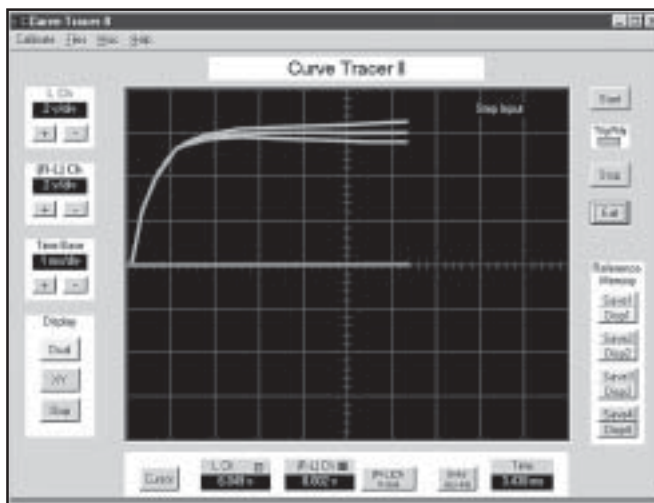

Figure 6 — The main window of the curve tracer program showing step voltage input.
remove the DUT. Next, set the jumper J1 on the circuit so that the step voltage is applied to Rm. Run the program. Click Start and wait for the TrigRdy LED to change from green to red. Now create the step voltage by closing switch S1 on the circuit. Upon capture of the step voltage data, the TrigRdy LED will revert to green. With S1 still closed, measure the step voltage at TP1 with a good voltmeter, preferably a digital type, and write it down. View the data captured by the program using the left cursor in *dual* mode. You should see a large step voltage on the left (L) channel (green) and a small voltage on the right minus left (R-L) channel (blue). See Figure 6 for an example. [The blue line on the computer screen is shown as a heavy horizontal line on Figure 6. — Ed.] The data should start out clean without much noise. If there is a lot of noise at the start of capture (probably due to S1 bounce), repeat the capture until it is clean.
See Figure 6 for an example of over, under and normal compensation. Make corrections in *very* small amounts. Use the cursor to verify it is straight by moving it across the waveform while looking at the readout.